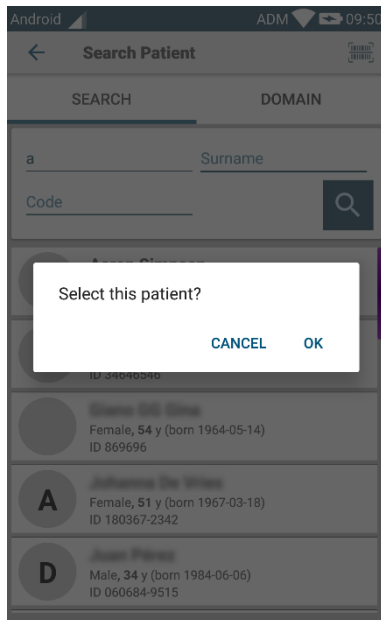

Fig 176
- Touch the box corresponding to a patient to select the patient. User confirmation is required (Fig 176).